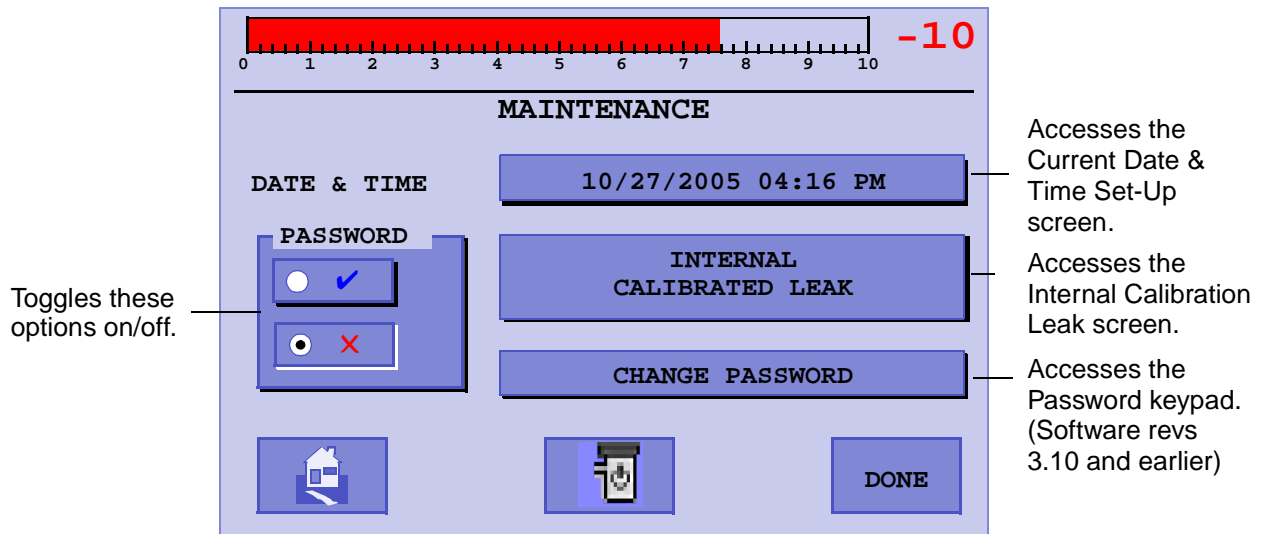

Figure 3-14 Maintenance
- Press **Maintenance** on the Set-Up screen and the Maintenance screen appears (Figure 3-14).